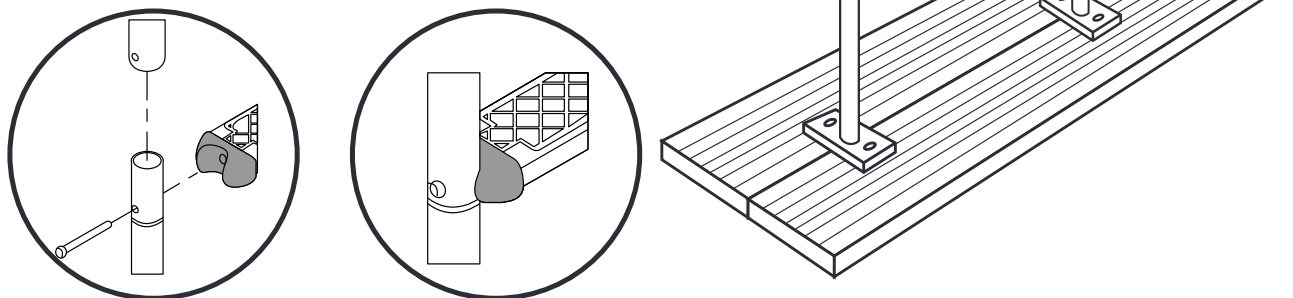

Fig. 20/Abb. 20/Afb. 20
- A.- Slot in the upper (1) and lower (10) handrails, fasten them with the steps (9) and the steps to the handrails using screws (11), nuts (8) and washers (7). (Fig.20)
- B.- Assemble the end pieces (12) of the handrail so that the ladder cannot damage the pool.